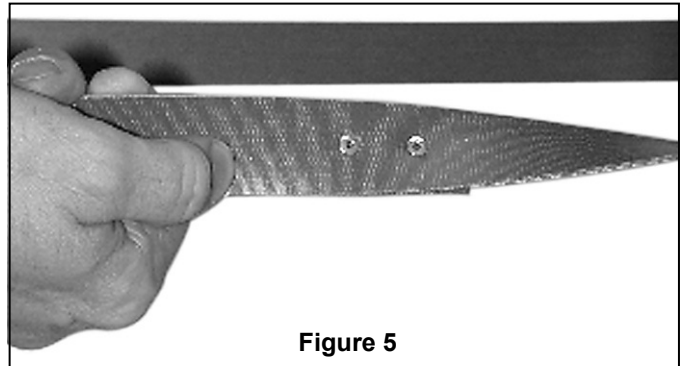

Figure 5
9. Attach wall control unit to outlet box using the two 6-32 screws provided. (Figure 5)
10. Attach wall plate to the switch control front. (Figure 5)